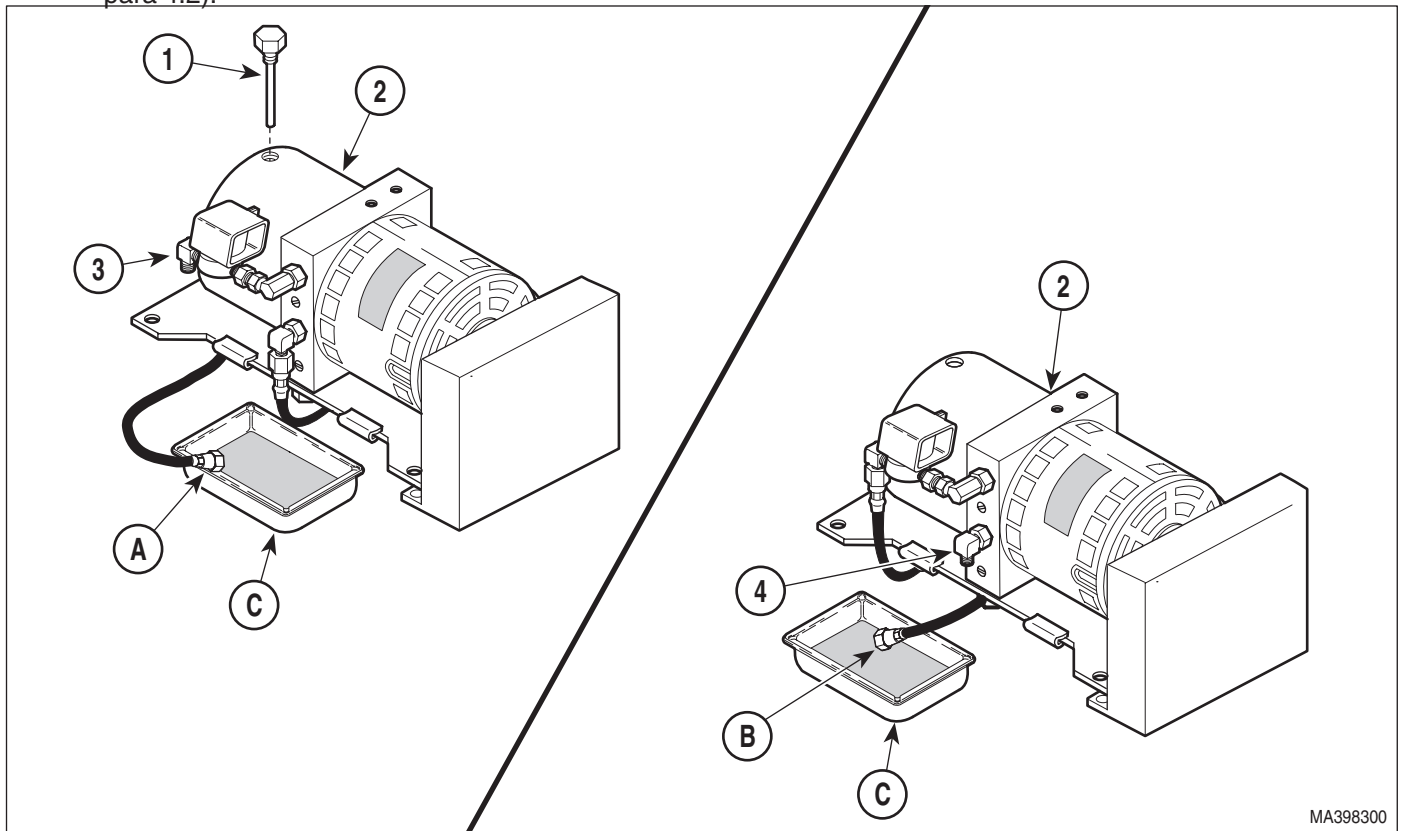

Figure 4-35. Hydraulic System Flushing Procedure
- (1) Lower TABLE DOWN, BACK DOWN, TILT DOWN, and FOOT DOWN functions all the way down.
- (2) Remove motor cover assembly (Refer to para 4.2).
- (3) Remove filler cap (1, Figure 4-35) from reservoir (2).
- (4) Get a suitable drain pan with a capacity of approximately 2 quarts (1.9 liters).
- (5) Using a syringe or suction device, remove all oil from the reservoir (2).
- (6) Refill reservoir (2) with light grade mineral oil.
- (7) Disconnect hose (A) from down functions shuttle valve (3) and place end of hose in drain pan.
- (8) Raise TABLE UP, BACK UP, TILT UP, and FOOT UP functions all the way up, while making sure to keep refilling reservoir (2) with light grade mineral oil as necessary.
- (9) Connect hose (A) to down functions shuttle valve (3).